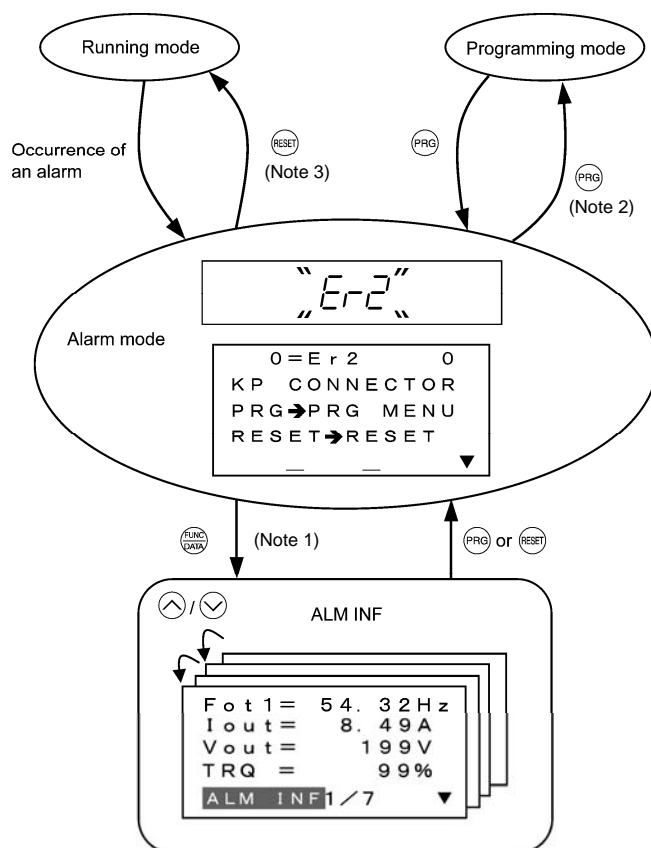

Figure 3.37 Screen Transition in/from Alarm Mode
■ **Display of running status information at the time of alarm (Note 1 in Figure 3.37)**
■ **Transition to Programming mode (Note 2 in Figure 3.37)**
■ **Resetting alarm (Note 3 in Figure 3.37)**